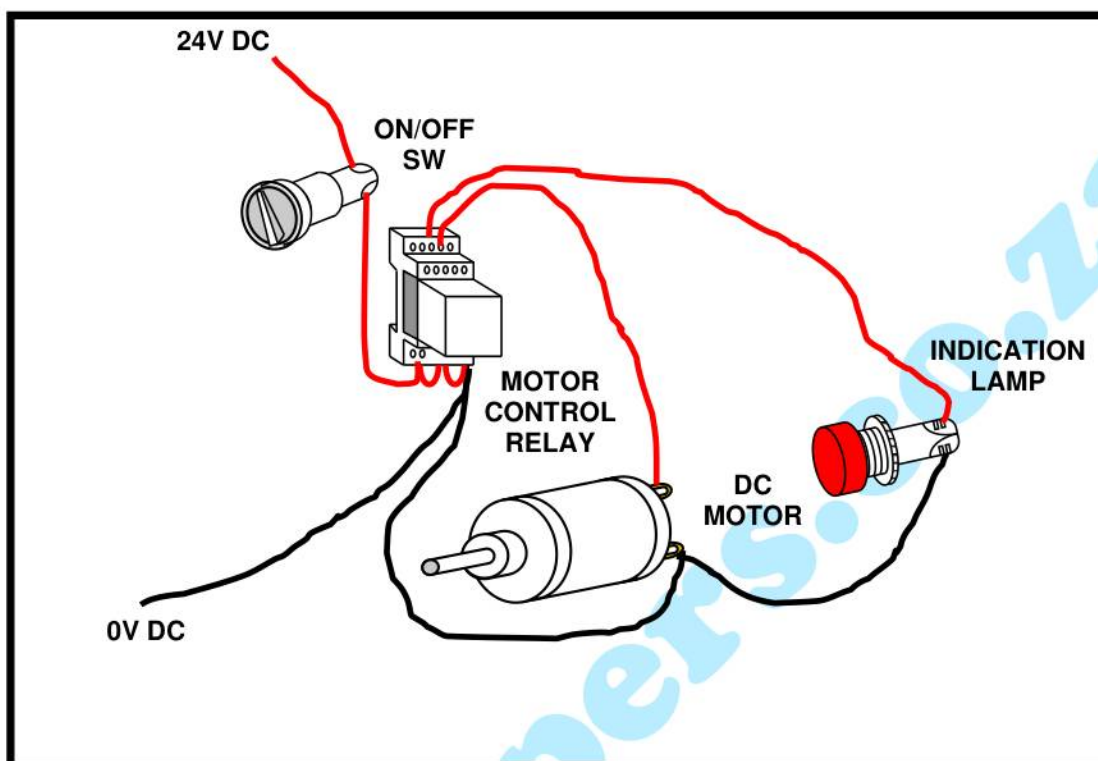

FIGURE 2
Study FIGURE 2 and answer the questions.
- 2.1 What type of control is being used in FIGURE 2? (1)
- 2.2 FIGURE 2 depicts components which are difficult to draw; therefore, symbols that represent the components are used.
- 2.3 Draw the fully labelled motor control circuit diagram in the relay ladder logic (RLL) IEC format that is represented by the pictorial drawing shown in FIGURE 2. (5)